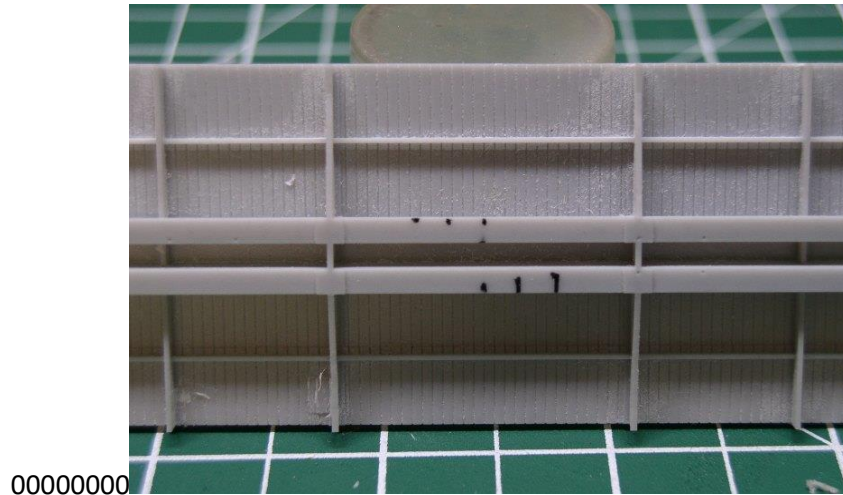

Figure U1
2. Find the centre of the centre sill on the underframe casting and make a mark between the two main crossies. It should be about 41" from the edge of the crosstie. See Figure U1